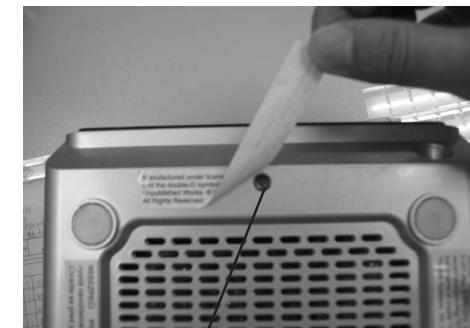

Figure 6
- 2) Rip the lable on the bottom side and loosen 1screws " F" as shown in Figure 6.